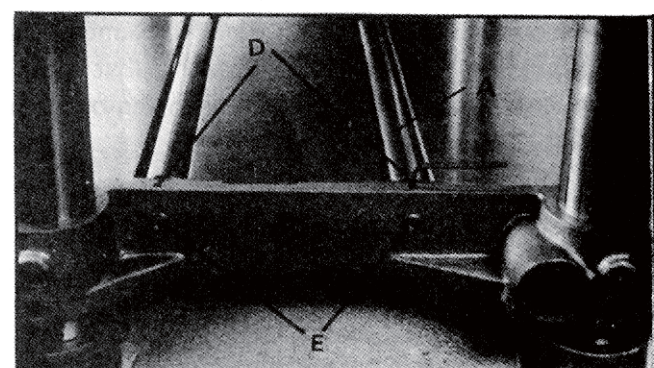

Fig. 35
Your planer is supplied with two table rolls (A) Fig. 35, which aid in feeding the stock by reducing friction and turn as the stock is fed through the planer. It is not possible to give exact dimensions on the proper height setting of the table rolls because each type of wood behaves differently. As a general rule, however, when planing rough stock the table rolls should be set HIGH and when planing smooth stock the table rolls should be set LOW.
2. Lay a straight edge (B) Fig. 36, across both rolls and turn screws (E) Fig. 35 to raise or lower table rolls (A). Table rolls must also be adjusted on the opposite end of table in the same manner. The table rolls must always be set parallel to the table.